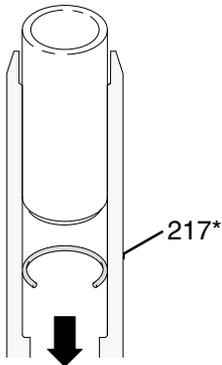

Fig. 30
- Place a o-ring (217*) in the cylinder. Slide the sleeve in to the cylinder to seat the o-ring. See Fig. 30. Remove the sleeve.